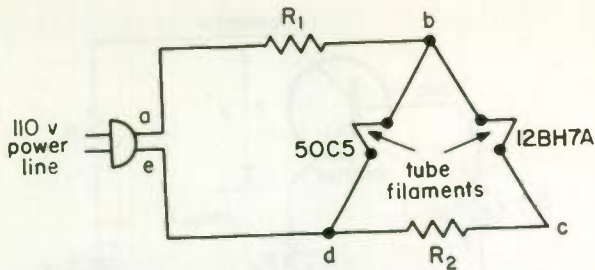

Fig. 23
10. In Fig. 23 the correct voltage across R_1 is (a) _____ volts and the correct voltage across R_2 is (b) _____ volts. The proper filament voltage for a 50C5 tube is 50 volts, and that for a 12BH7A is 12.6 volts.
11. The filament of a 50C5 tube draws 0.15 amp, and that of a 12BH7A, 0.3 amp. If you were designing the circuit of Fig. 23, the value of resistance you should use for R_2 is (a) _____ ohms, and for R_1 it is (b) _____ ohms.